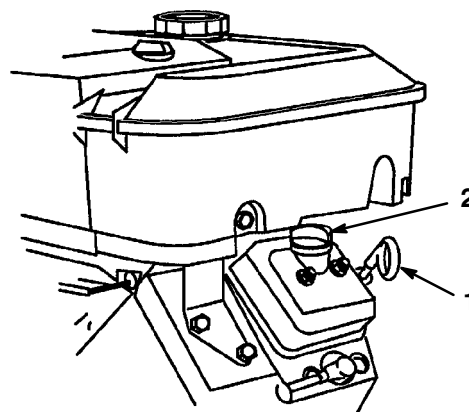

Figure 10
- Remove dipstick and wipe it with a clean rag (Fig. 10). Insert dipstick into tube and make sure it is seated fully. Remove dipstick and check level of oil.
- If oil level is low, remove filler cap from valve cover (Fig. 10) and pour oil into opening until the oil level is up to the "FULL" mark on the dipstick; refer to Engine Oil, page 29, for proper oil type and viscosity. Add the oil slowly and check the level often during this process. **Do not overfill.**